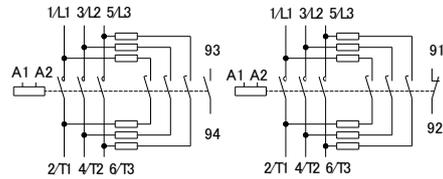

Fig. 8
- For wiring, make sure that the phase sequence of the resistance wire is correct according to the internal circuit diagram. (Fig.8) Failure to do so may result in short-circuit.
* After wiring, make sure that each resistance wire is connected to a correct phase according to Fig. 8
回路图请参照 Fig. 8。
See Fig. 8.